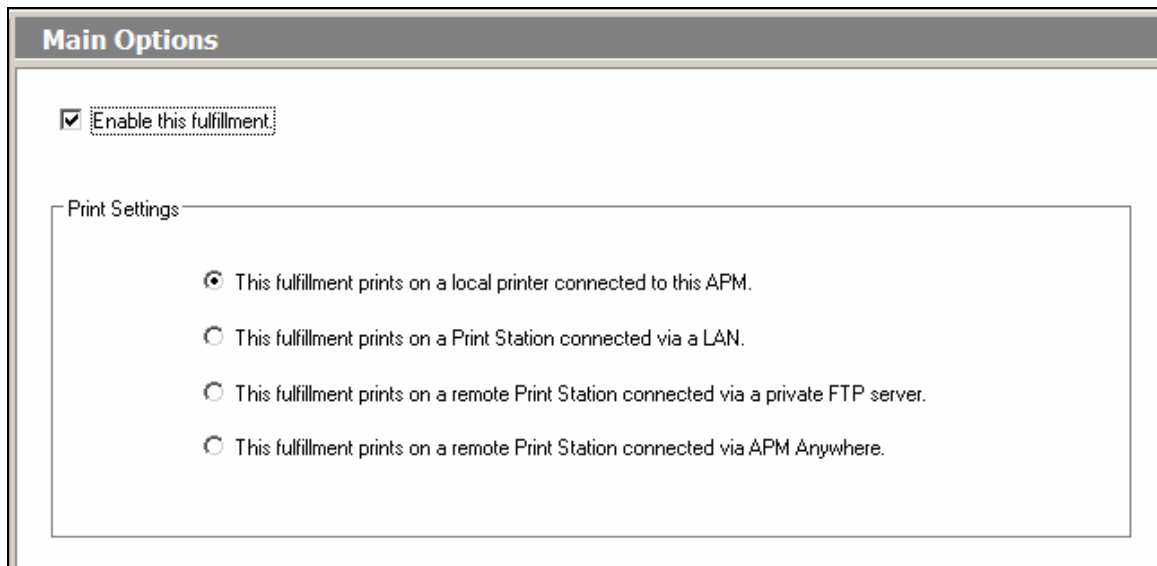

Figure 1: Main Options in the Fulfillment Window
- 1.) On the Photogize main screen click on the Orders folder on the left. (See Figure 1.)